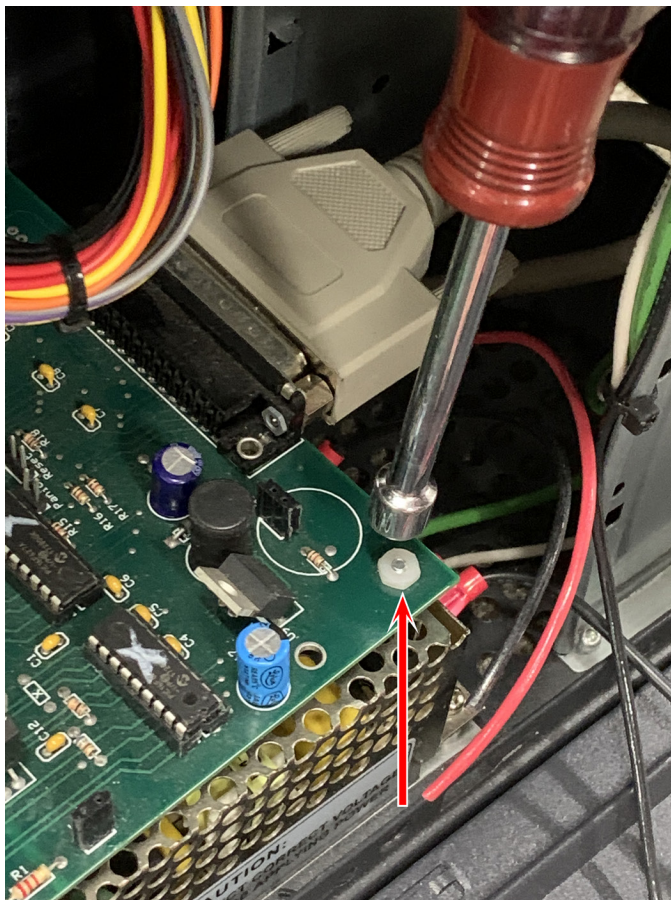

FIGURE 12—The red arrow points to one of the nylon nuts.
9. With a 1/4" nut wrench, remove the three or four white nylon nuts that secure the board the top of the power supply (see Figures 12 and 13).